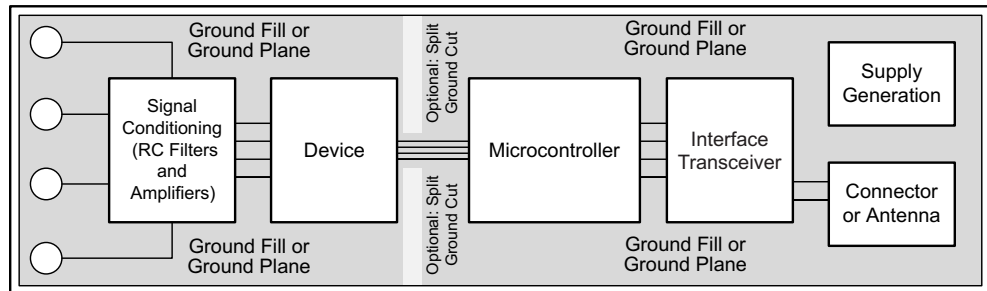

Figure 91. System Component Placement
TI recommends employing best design practices when laying out a printed-circuit board (PCB) for both analog and digital components. This recommendation generally means that the layout separates analog components [such as ADCs, amplifiers, references, digital-to-analog converters (DACs), and analog MUXs] from digital components [such as microcontrollers, complex programmable logic devices (CPLDs), field-programmable gate arrays (FPGAs), radio frequency (RF) transceivers, universal serial bus (USB) transceivers, and switching regulators]. An example of good component placement is shown in Figure 91. Although Figure 91 provides a good example of component placement, the best placement for each application is unique to the geometries, components, and PCB fabrication capabilities employed. That is, there is no single layout that is perfect for every design and careful consideration must always be used when designing with any analog component.